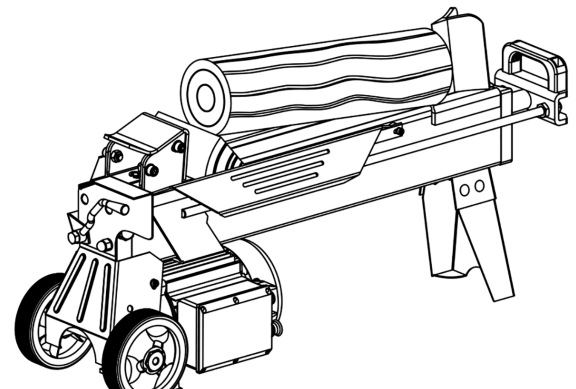

FIGURE 8
- 2) After the log pusher moves back and completely stops at its starting position, insert a wedge wood (A) Fig.8 under the jammed log.
- 3) Start the log splitter to push the wedge wood to go on completely under the jammed one. See Fig.8.